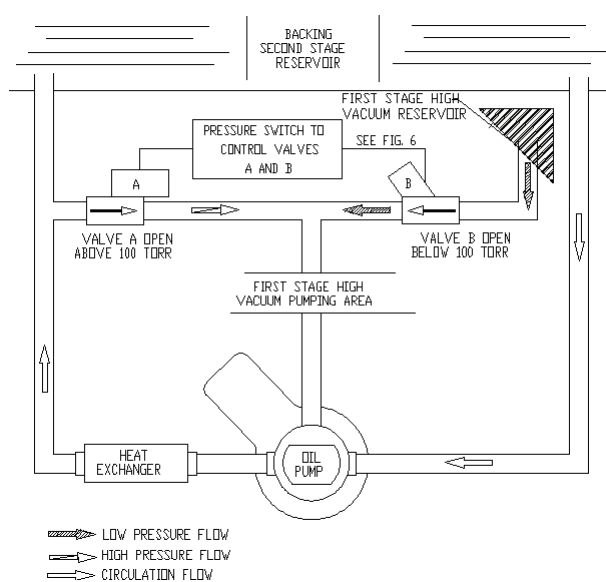

Figure 4-2 – Oil Flow - KTC-112
**Figure 4-2** shows the oil flow for KTC-112 pumps. The pump circulates oil from the backing (second) stage reservoir through a water-cooled heat exchanger and back to the reservoir. When the pump is at a pressure above 100 Torr (133 mbar), some of the oil leaving the heat exchanger is admitted through solenoid valve (A) into the high-vacuum (first) stage via the bearing located on the non-drive side of the pump. Below 50 Torr (67 mbar), the pressure switch closes solenoid valve (A) and opens solenoid valve (B), and the high-vacuum (first) stage is then supplied with degassed oil from the first stage reservoir. The oil supply pressure is provided by interstate pressure and the reservoir oil head. A solenoid valve located on the drive side of the pump, which is open when the pump is running, controls oil to the backing (second) stage. Oil is delivered into the backing stage by differential pressure.